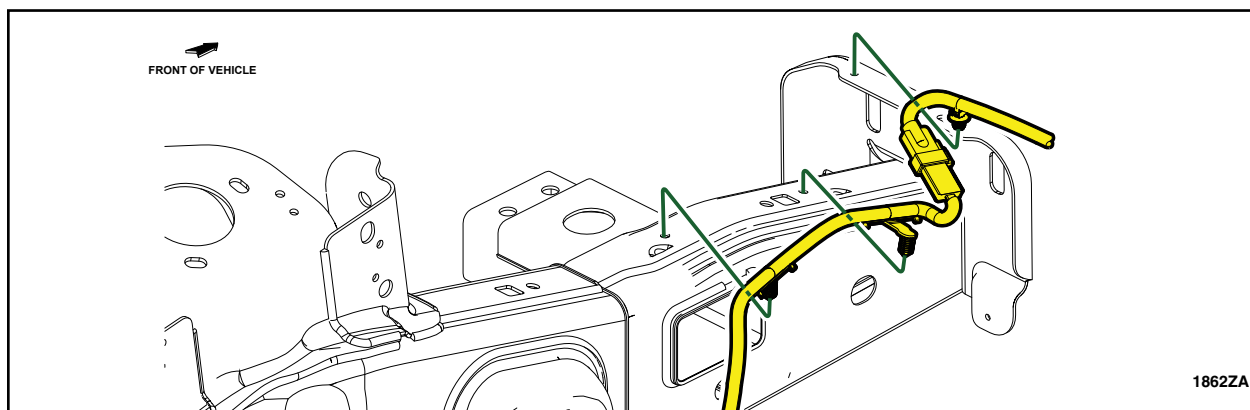

FIGURE 7c
5. Connect the wire assembly in-line connector. See Figure 7c.